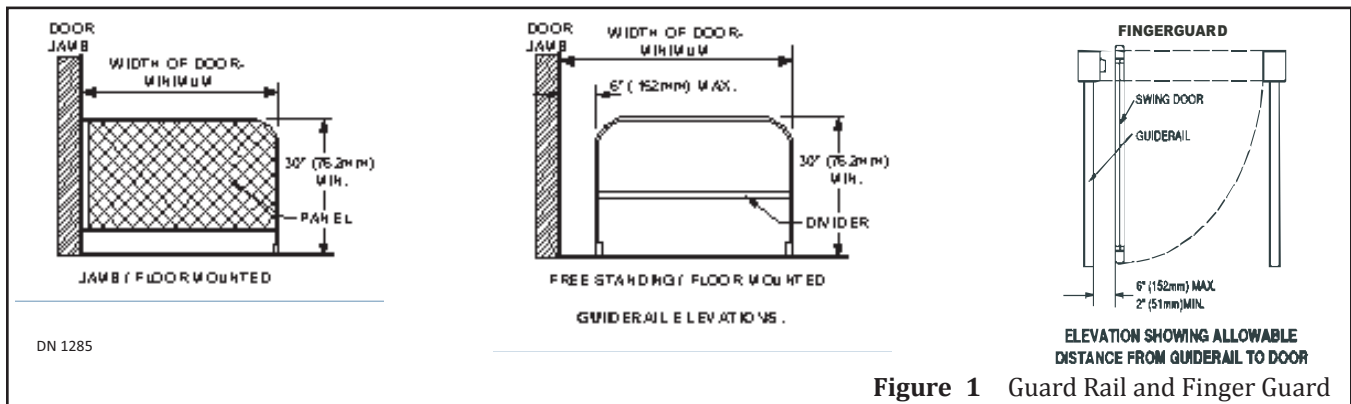

Figure 1 Guard Rail and Finger Guard
- Check that guide rails or other barriers or separators are present (two per swing door side) and firmly anchored. Rail length should be the width of the open door or greater. Please see Figure 1.
- ▶ Finger Guard: If installed, inspect the Finger Guard to see that it is secure and in good repair. Please see Figure 1.